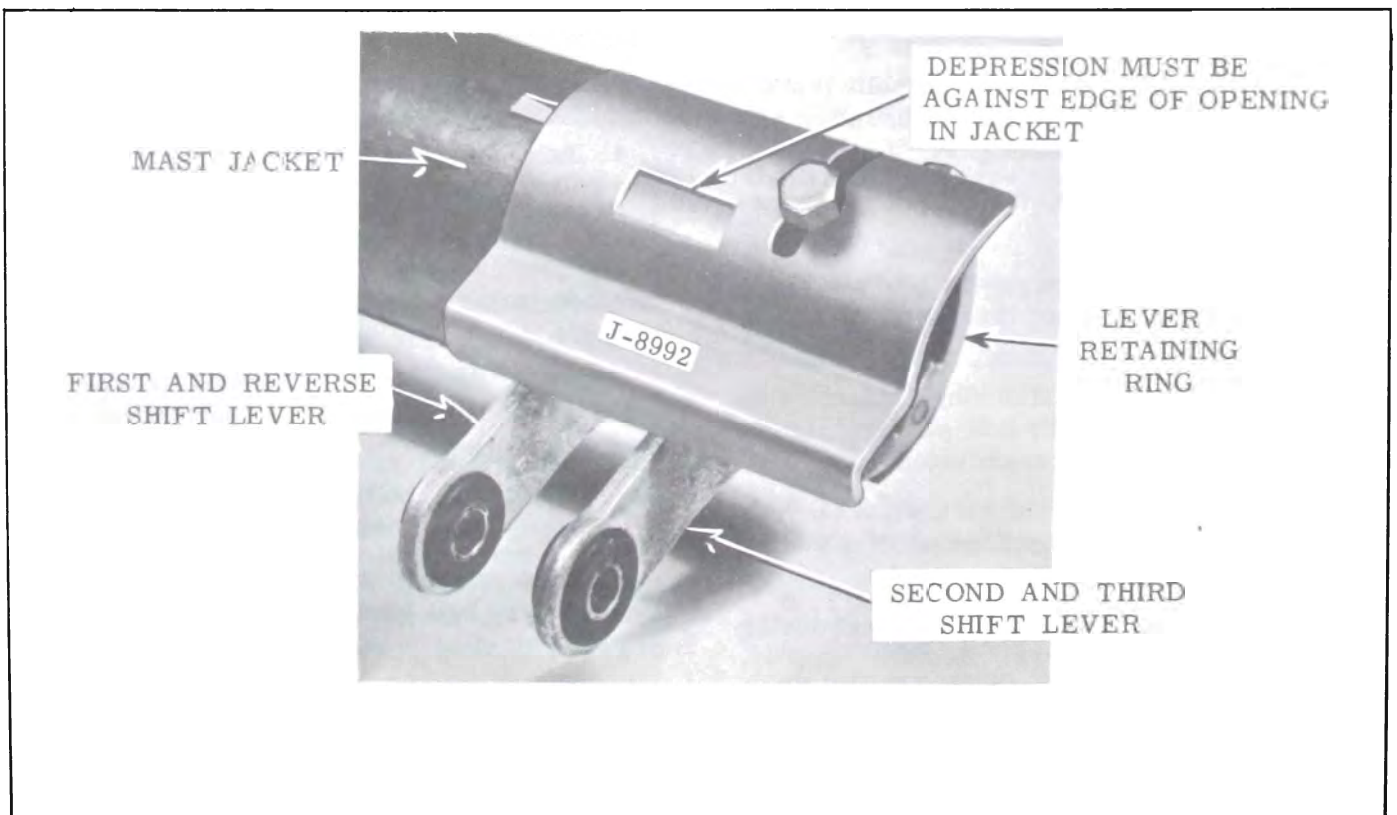

Figure 4-13—Installing J-8992
4. Loosen lever retainer ring bolt and install fixture J-8992 on mast jacket as shown in fig. 4-13.